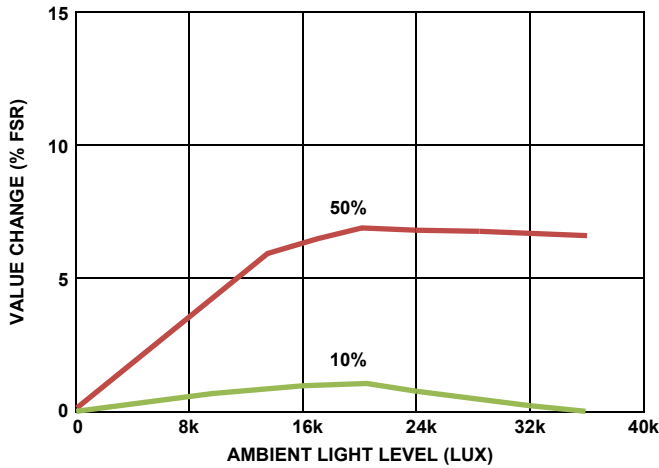

FIGURE 8. PROXIMITY AMBIENT LIGHT REJECTION (Note 14)
14. Figure 8 shows the ISL29038 Proximity Ambient Light Rejection using a Norwood Solar Emulator. At 40k lux ambient light level, the Proximity Washout Count (Reg 0x0D[7:1]) is 127 indicating a saturation in Proximity Signal processing path. The Proximity Washout bit 0x0D[0] is active at approximately 90% of the maximum level. At 10% initial PROX count (due to optical leakage from IR LED to the ISL29038), the PROX data error is under 2%. At 50% initial PROX count (severe optical leakage), the PROX data error is about 7%.